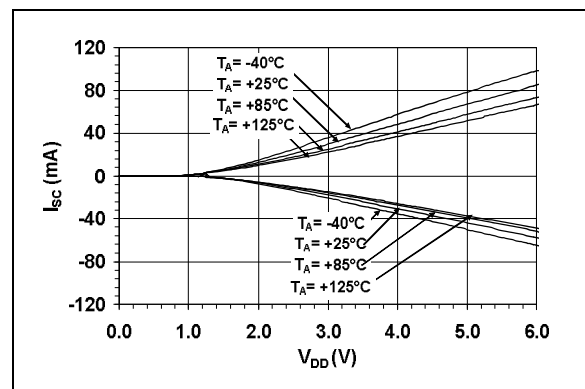

FIGURE 2-30: Short-Circuit Current vs. Supply Voltage vs. Temperature.
- 4:** The pull-up voltage for the open-drain output V_{PULL_UP} can be as high as the absolute maximum rating of 10.5V. In this case, I_{OH_leak} can be higher than 1 μA (see Figure 2-30).